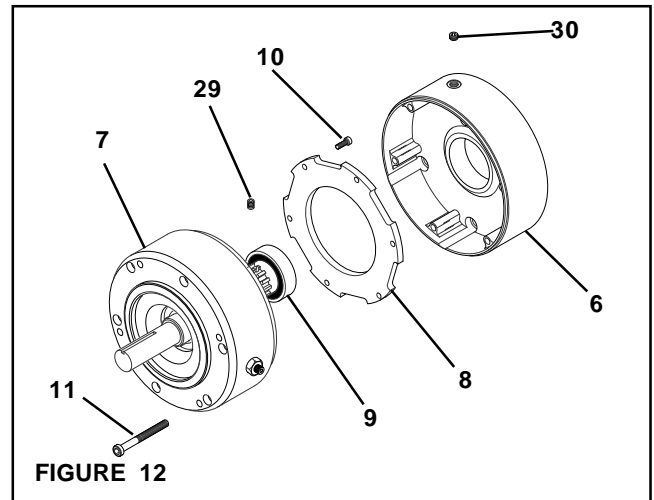

FIGURE 12
26. Carefully align the O.D. of the Ball Bearing (Item 9) with the bore of the Housing (Item 7); then, press the Shaft (Item 1), Ball Bearing (Item 9), and Rotor (Item 2) back into the Housing (Item 7) (See Figure 12).
27. Apply a drop of Loctite® 242 to the threads of the six Socket Head Cap Screws (Item 10) (See Figure 12).
28. Secure the Disc Plate (Item 8) to the Piston (Item 5) using the six Socket Head Cap Screws (Item 10); then, alternately and evenly tighten the six Socket Head Cap Screws (Item 10) to 40 In. Lbs. [4.5 N•m] torque (See Figure 12).